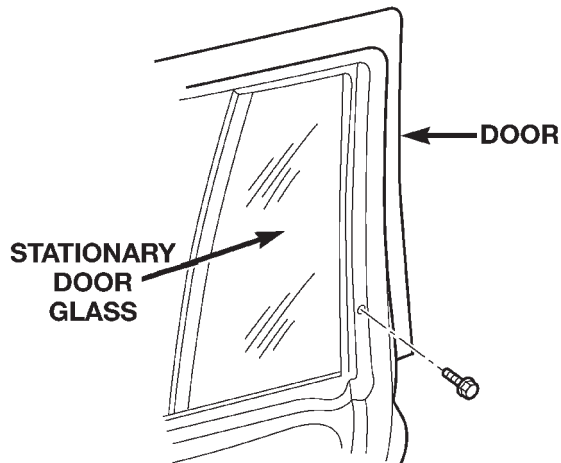
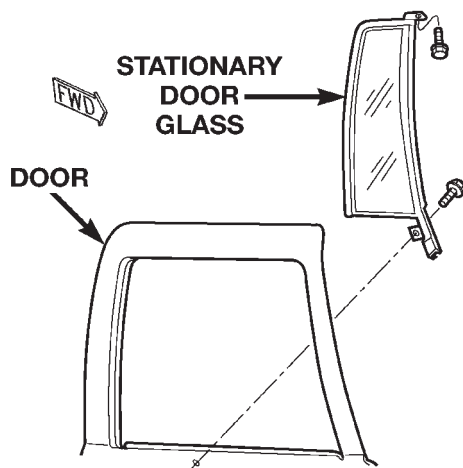

Fig. 49 Stationary Door Glass
Fig. 50 Stationary Door Glass
- (1) Remove door trim panel.
- (2) Remove waterdam.
- (3) Remove inner belt weatherstrip.
- (4) Remove bolt attaching bottom of rear glass run channel to door.
- (5) Pull run channel downward and separate from door.
- (6) Remove screws attaching stationary door glass frame to door (Fig. 49) and (Fig. 50).
- (7) Separate stationary door glass from door.